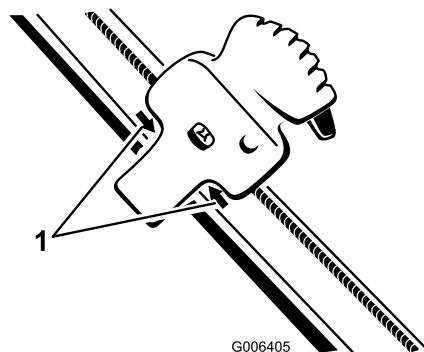

Figure 40
2. Position the Quick Shoot control between the 2 arrows located on the right side of the upper handle (Figure 40).